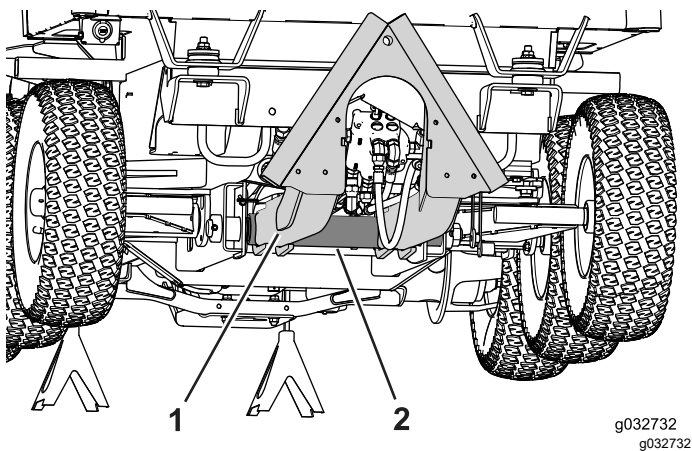

Figure 87
3. Locate the pivot point for the attachment arm on the winter frame (Figure 87).